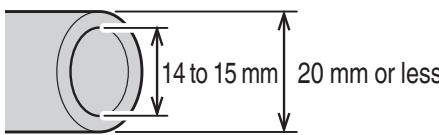

Fig. 2
6. Prepare a water feed hose (Fig. 2)